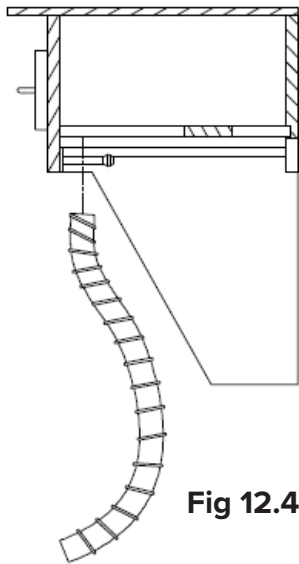

Fig 12.4
1. Inset Umbilical through Hose Clamp opening (Fig 12.4).